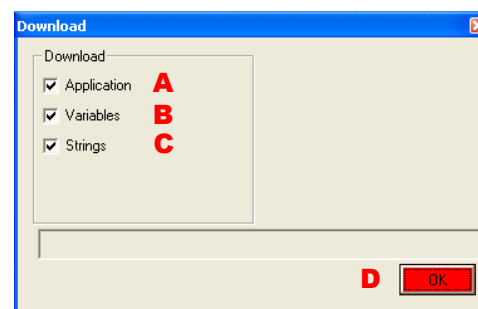

Fig. 6.6
- “Verify” (Fig.6.6-B) – Compares the Program contained in the RAM memory with the compiled Program.
- “Save in Flash” (Fig.6.6-C) – Transfers the Program loaded in the RAM memory to the Internal Flash Memory of the Controller.
- “Clear Register Memory” (Fig.6.6-D) – Resets the value of the Controller’s General Purpose Internal Registers .
- “Run After Download” (Fig.6.6-E) – At the end of the download, sets the Controller in “Run” modality (execution of the Program).